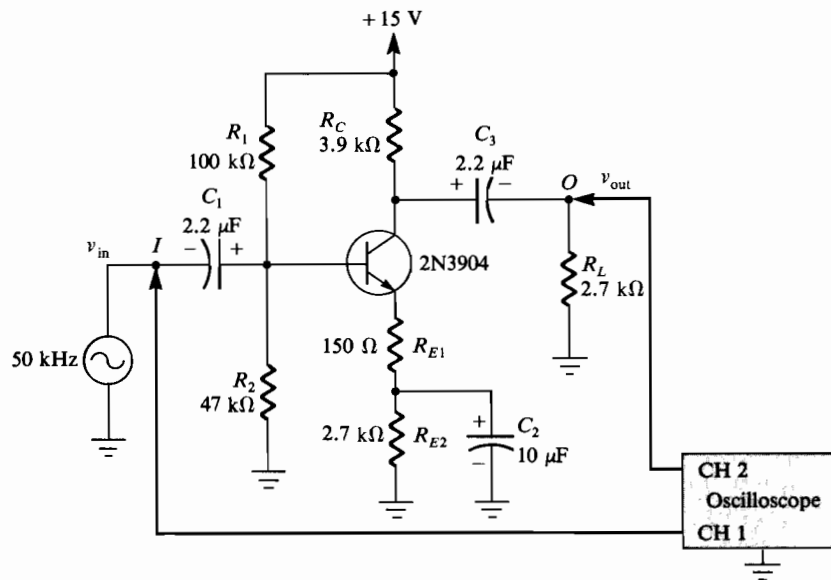

FIGURE 27-1 Schematic diagram of circuit.
1. Wire the circuit shown in Figure 27-1, omitting the signal generator and the power supply.
3. Connect Channel 1 of your oscilloscope to point I (v_{in}) and Channel 2 to point O (v_{out}). Then connect the signal generator to the circuit as shown in Figure 27-1, and adjust the sine wave output level of the generator at a frequency of 50 kHz so that the
1. The midband decibel gain for the circuit of Figure 27-1 is approximately
2. The low-frequency response of the amplifier of Figure 27-1 is controlled by
3. Assuming a signal source impedance of 50Ω and a β of 100 for the circuit for Figure 27-1, the critical frequency due solely to C_1 is approximately
4. Assuming a signal source impedance of 50Ω and a β of 100 for the circuit of Figure 27-1, the critical frequency due solely to C_2 is approximately
5. Assuming a signal source impedance of 50Ω and a β of 100 for the circuit of Figure 27-1, the critical frequency due solely to C_3 is approximately